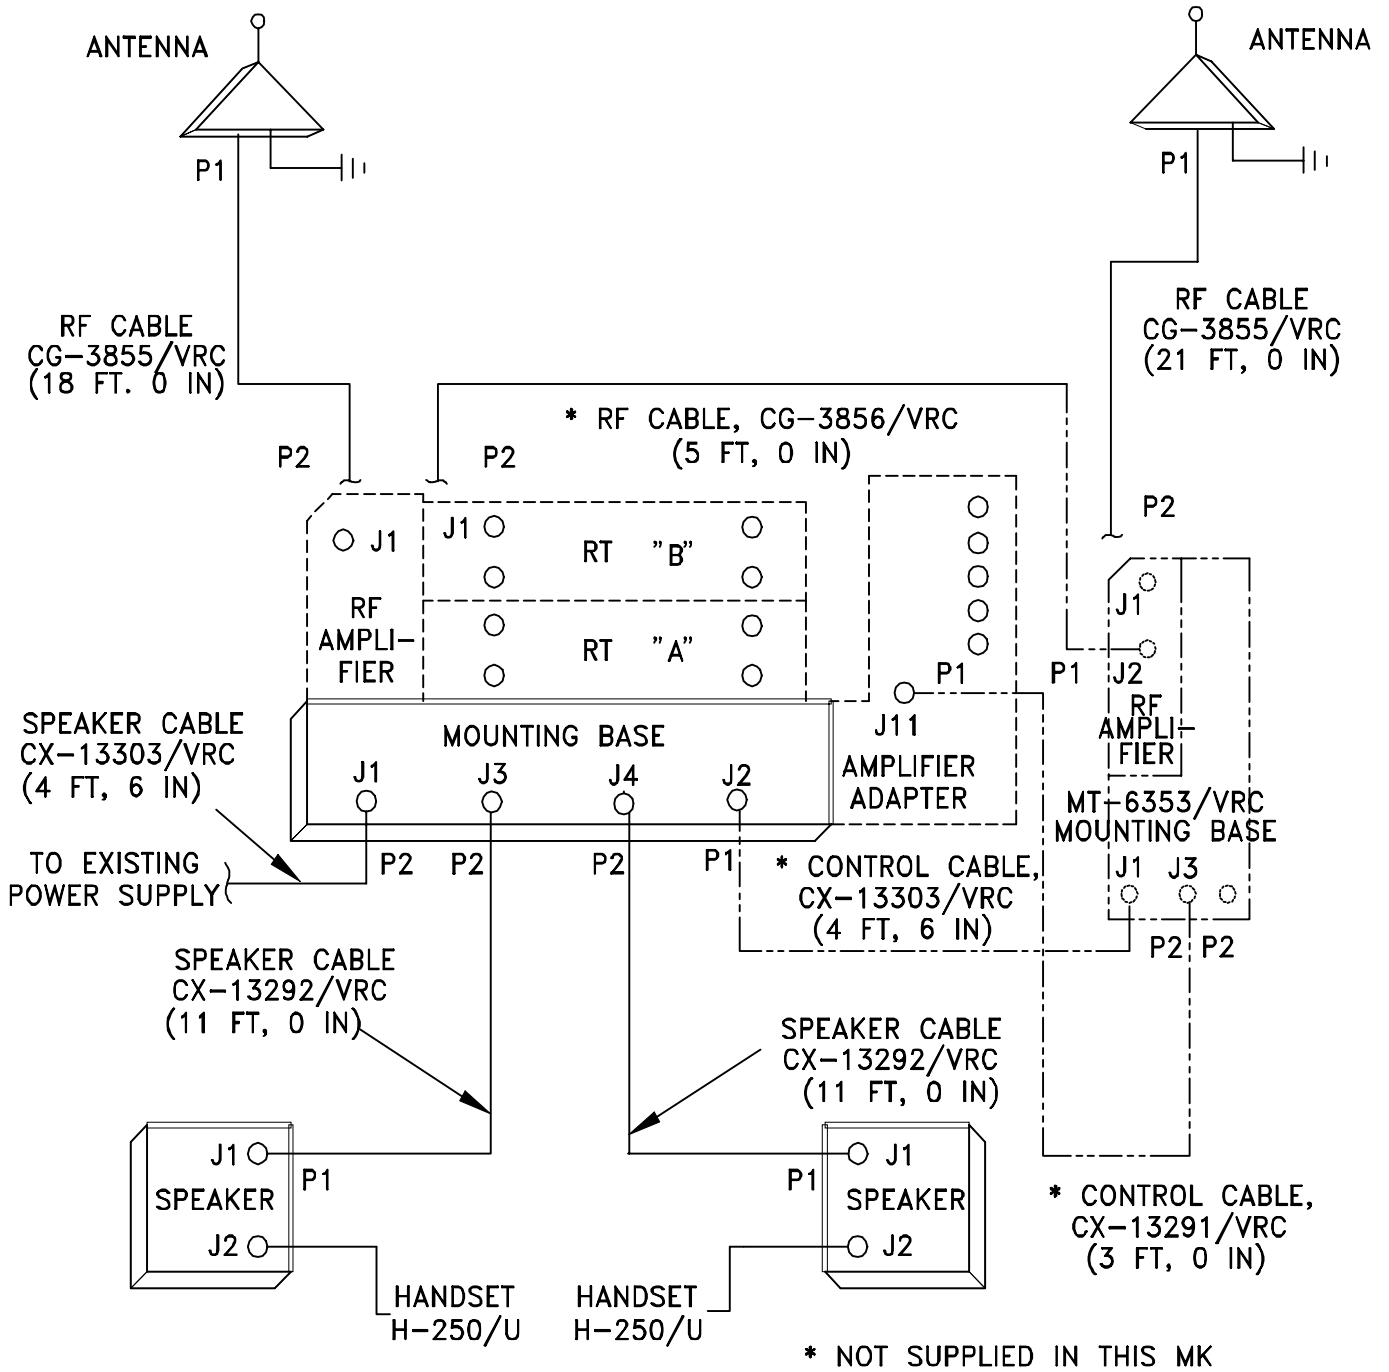

Figure 5-7. Cable Diagram: For AN/VRC-92 Series
b. Cables.	Check for proper installation and connection of cables. See Figure 5-7 for cable connections. Unused cables should be stowed in appropriate place inside the vehicle.
e. Radio issued with vehicle.	Install and connect cables. See TM 11-5820-890-20-1 or TM 11-5820-890-20-4 for installation and operational (OP) checks and instructions.